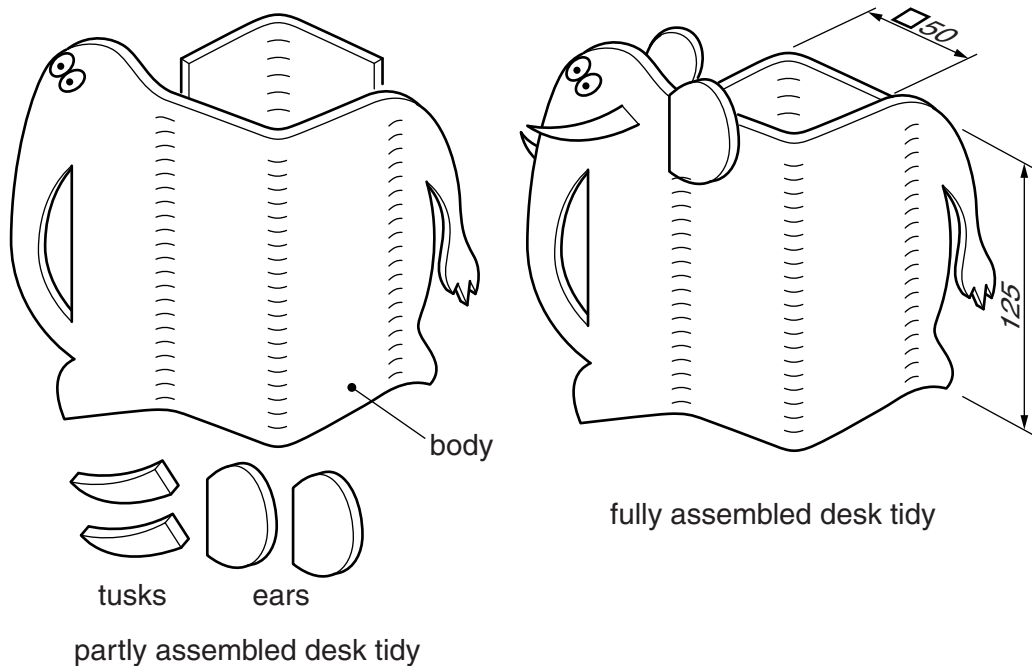

Fig. 3
- 3 Fig. 3 gives details about a desk tidy, made from plastic, which is to be produced in a workshop. The body of the elephant will be made from a one piece development (net) which includes a base.